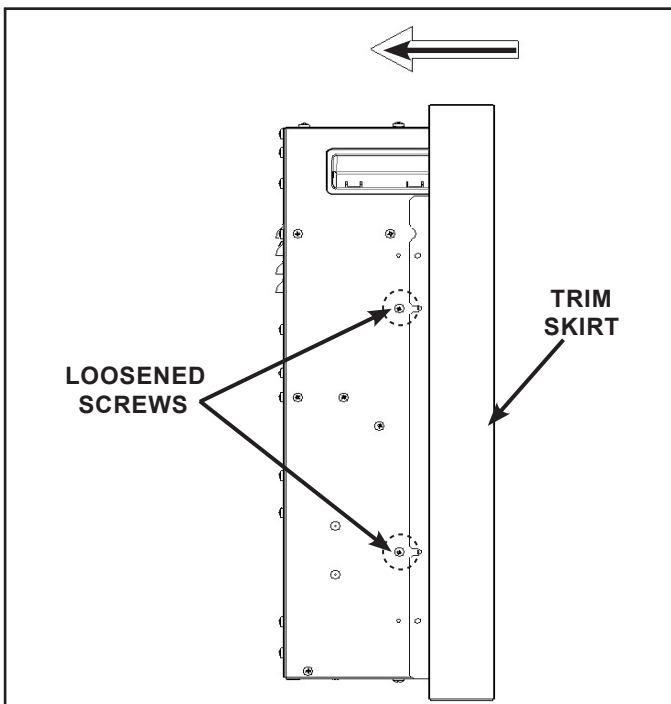

Figure 3 Slide the Side Trim Skirt on Appliance
3. Slide the side trim skirt under the screws loosened in Step 2. See Figure 3.